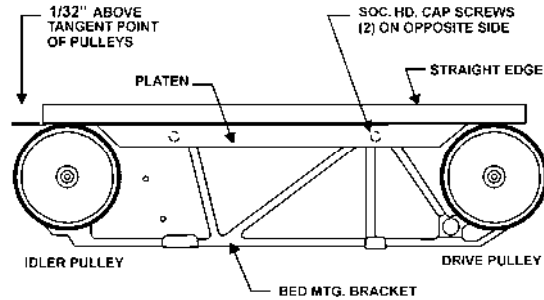

Figure 13
Refer to Figure 13:
2. Using a 6mm hex wrench, loosen the two socket head cap screws inside the belt arm and shift the platen as needed. The platen should be $\frac{1}{32}$ " to $\frac{1}{16}$ " above the tangent points of the pulleys and in contact with the belt at both ends. A straight edge can be used with the abrasive belt to align the platen, as shown in Figure 13.